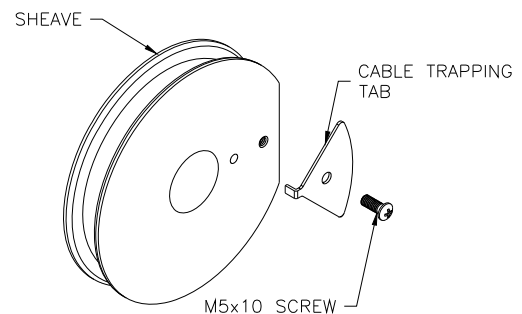

Fig 11b-Cable Trapping
- 21) The sheaves have a cable trapping tab that will need to be removed before routing the cables and reattached after. **Fig 11b**